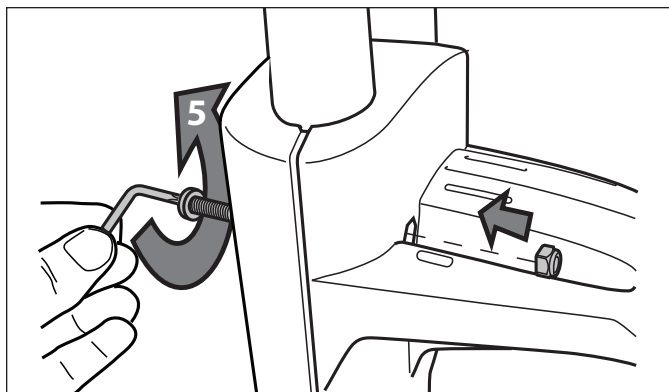

Figure 5. Secure the Cable Hook Plate
- Secure the cable hook plate using two (2) bolts and two (2) nuts and tighten with Torx wrench. Refer to Figure 5.